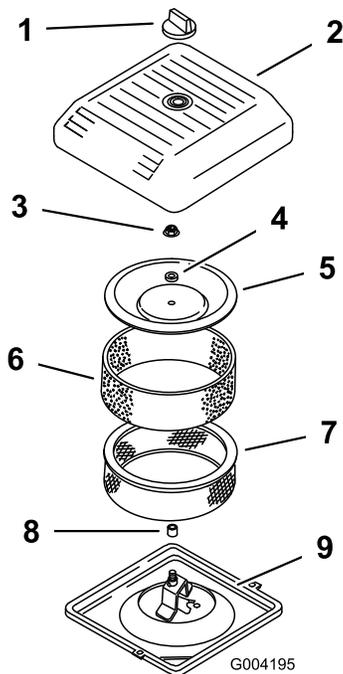

Figure 26
4. Unscrew the knob and remove the air cleaner cover (Figure 26).
5. Carefully slide the foam pre-filter off of the paper element (Figure 26).
6. Unscrew the cover nut and remove the cover, spacer and paper filter (Figure 26).
2. Place the air cleaner assembly onto the air cleaner base (Figure 26).